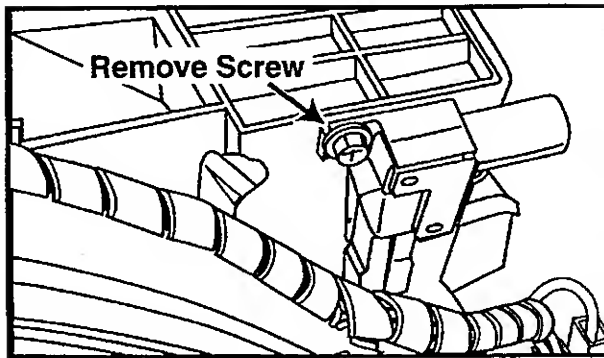

Figure 7-14
3. The switch is located on the upper right hand side of the outer tub assembly (*Figure 7-14*).